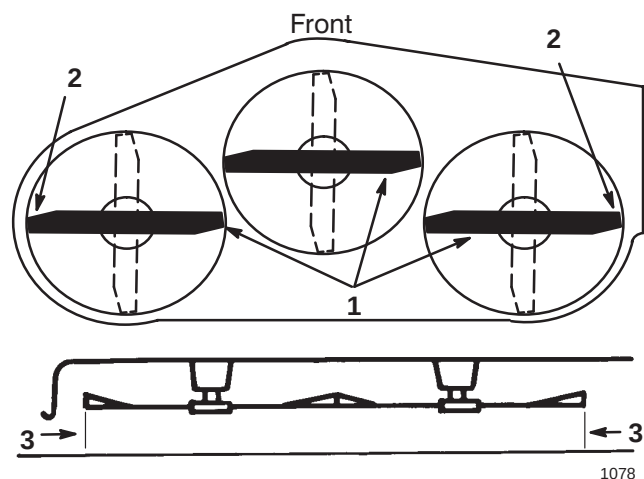

Figure 36
4. Carefully rotate the blade(s) from side to side (Fig. 36). Measure between the outside cutting edges and the flat surface (Fig. 36). If both measurements are not within 3/16 in. (4.75 mm), an adjustment is required; refer to steps 5 and 6.